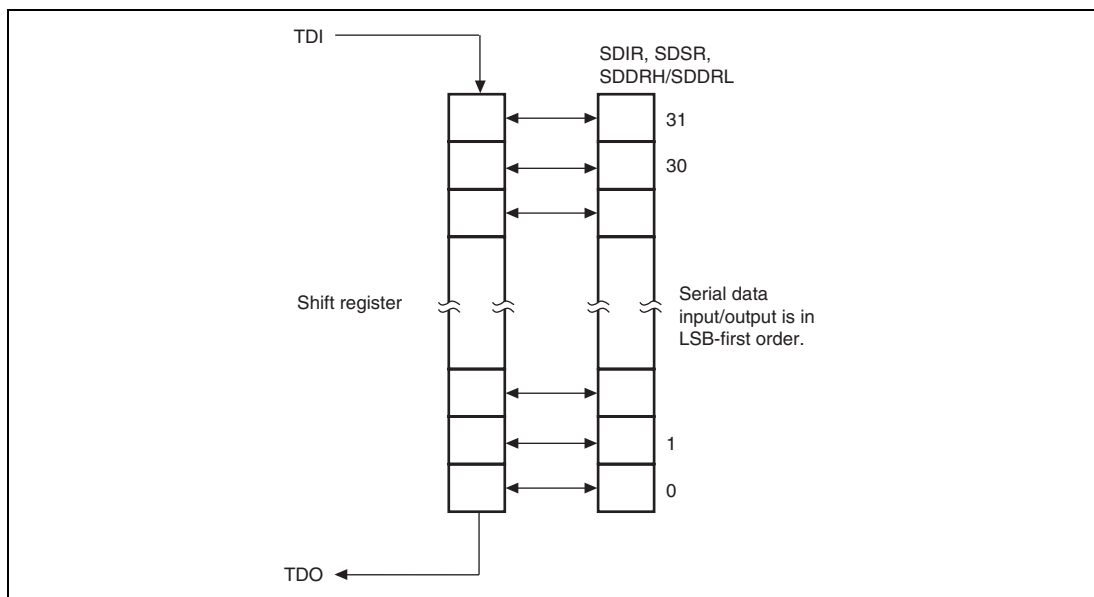

**Figure 22.5 Serial Data Input/Output**
- In serial data transfer, data input/output starts with the LSB. Figure 22.5 shows serial data input/output.